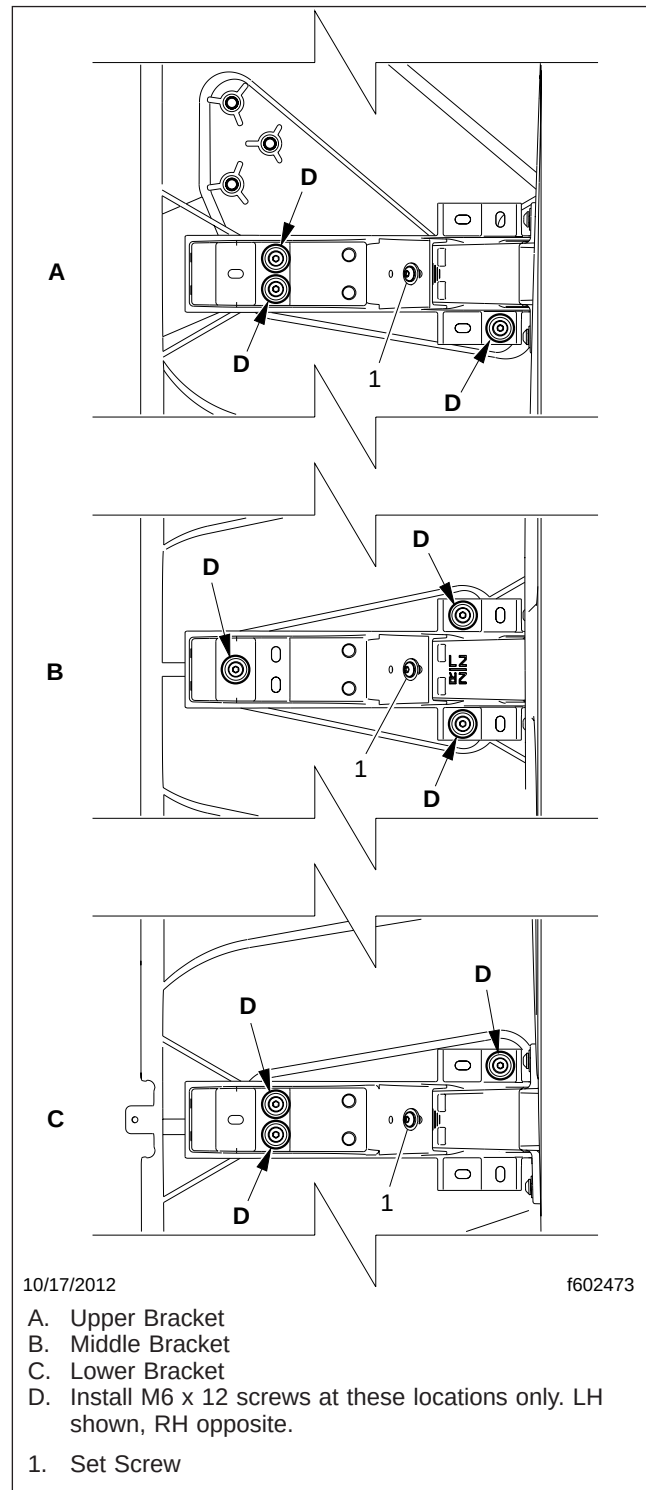

Fig. 2, Side Extender Fastener Locations
2. Attach the side extender to the brackets, using three M6 x 12 screws each. See Fig. 2 for fastener locations; note that the fastener locations are different for each bracket. Tighten the screws 70 lbf·in (800 N·cm).
4. Ensure that the middle bracket set screw is loose, then pivot it against the side extender. Using three M6 x 12 screws, attach the bracket to the side extender. See Fig. 2 for fastener locations. Tighten the screws 70 lbf·in (800 N·cm).